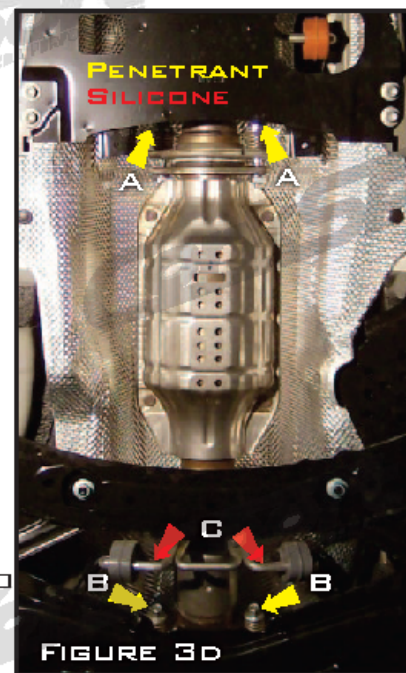

FIGURE 3D
D. SPRAY CATALYST PIPE FASTENERS WITH PENETRATING SPRAY AND HANGERS WITH SILICONE SPRAY. REMOVE 14MM LOCKING NUTS SHOWN IN FIGURE 3D, ITEM A FROM SPRING LOADED STUDS ON THE REAR FLANGE OF THE CATALYST PIPE WITH A 14MM SOCKET AND 3/8" DRIVE RATCHET. THESE ARE EXTREMELY TIGHT. REALISTICALLY, YOU'LL PROBABLY END UP UNTHREADING THE STUDS OUT OF THE WELD NUTS ON THE FACTORY CATPIPE.
E. REMOVE 2X14MM SPRING LOADED HEX BOLTS SHOWN IN FIGURE 3D, ITEM B FROM THE FRONT FLANGE CONNECTING THE FACTORY CATPIPE TO THE FACTORY DOWNPIPE. SET THE SPRINGS ASIDE AS THEY WILL BE REUSED.
F. THE FACTORY CATALYST PIPE IS NOW TETHERED TO THE CHASSIS ONLY BY THE EXHAUST HANGER BUSHINGS SHOWN IN FIGURE 3D, ITEM C. PUSH THE ENTIRE CATPIPE TO ONE SIDE TO GAIN AS MUCH REACH ON PUSHING ONE OF THE BUSHINGS OFF OF THE CATPIPE. PRESS THAT BUSHING OFF OF THE HANGER BY HAND AS SHOWN IN FIGURE 3A (SEE VIDEO DEMONSTRATION HERE: [HTTP://WWW.YOUTUBE.COM/WATCH?V=G3PABZET8H4](http://www.youtube.com/watch?v=g3pabzet8h4)) THIS IS DIFFICULT, YOU HAVE TO REALLY YARD ON THESE TO GET THEM OFF. IF THEY FEEL LIKE THEY ARE STICKING TO THE HANGER, SPRAY MORE WD-40 OR SILICONE SPRAY. ONCE YOU GET ONE OF THEM OFF, THE OTHER SLIDES OFF EASILY. REMOVE THE CATALYST PIPE FROM THE VEHICLE.